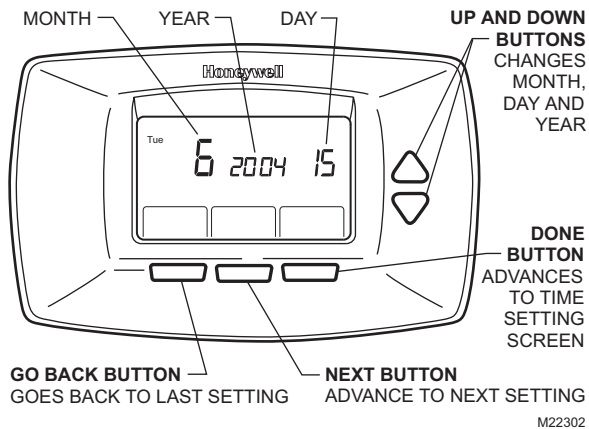

Fig. 30. Setting calendar when thermostat is first powered.
- When first powered, the thermostat proceeds through a sequence of screens to set the calendar. See Fig. 30.